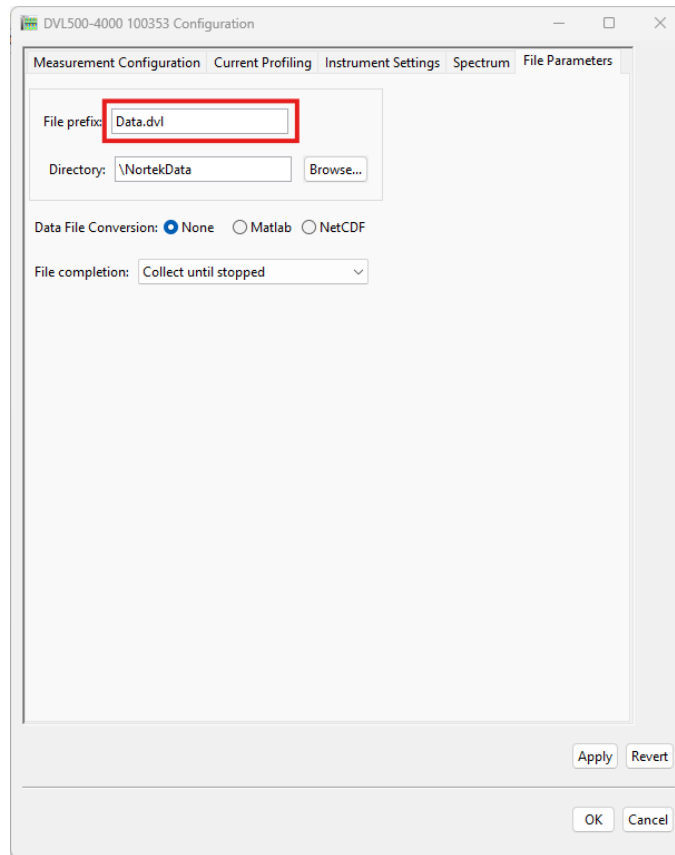
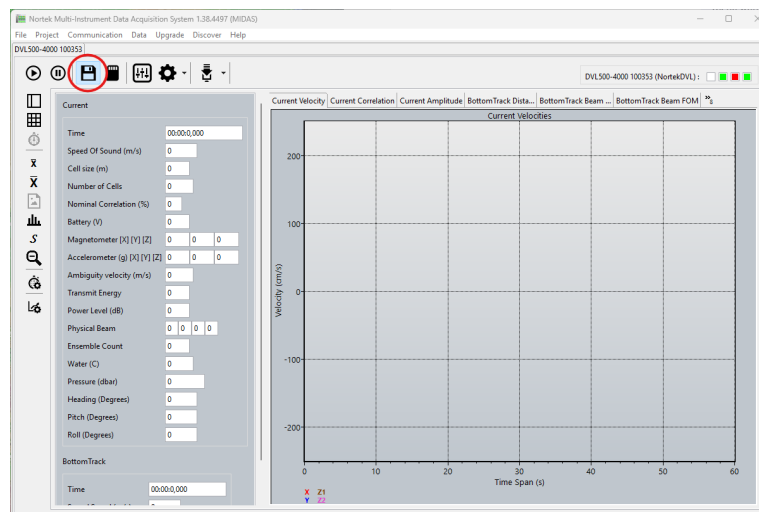

Figure 15: Midas File Configuration
Figure 16: Midas Save to File
6. Configure recording for the DVL, specifying a file name in the "File Parameters" tab (figure 15). Click OK to save configuration and file name. Select the floppy disk drive on the homepage to enable saving to computer (figure 16).